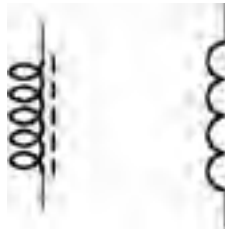

Fig. 11-7. Inductor.
If you wrap a wire around a ferrite core, it has a lot more inductance than a single wire in space. This would be an inductor as a component, as shown in Fig. 11-7. Inductance is measured in the *henry* (H), after the American scientist Joseph Henry who discovered a number of the phenomena that we call inductance. Inductors are often represented by the letter L in formulas and schematics. As in capacitors, we will normally work with microhenries (μH) and millihenries (mH) instead of full henries.